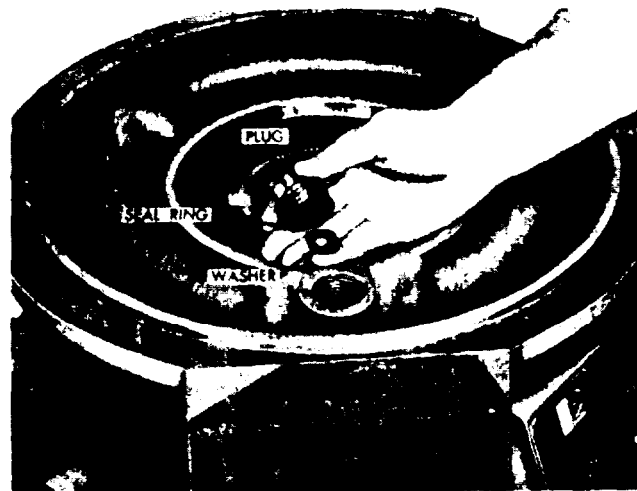

Figure 4C-20. Removing (or Installing) Plug from Converter Housing
2. Remove seal ring (16, Figure 4C-39 on page 4C-34) from converter pump hub (17).
3. Press double row ball bearing assembly (8) from converter pump hub (17).
5. Install double row ball bearing assembly (08), seal ring, groove side up, into bearing pump hub (17). Press the bearing until it is firmly seated in the hub.